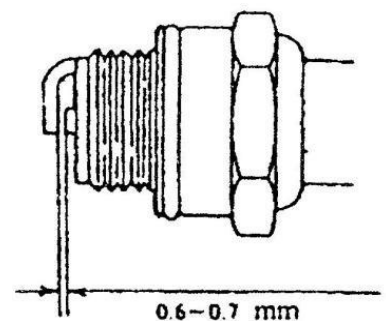

Fig. 16
- (1) After daily use, wash the air filter, as chemicals adhering to the sponge can reduce engine power. Pay special attention to this!
- (2) After washing the sponge with petrol, it should be reattached.
- (3) The correct gap between the spark plug electrodes should be 0.6-0.7mm, check it often; if it is too large or too small, adjust as shown in fig.16.
- (4) The compatible spark plug for this device is marked 4106J. Do not use other models. If it needs to be replaced, it can be purchased at a garden equipment service or a store selling agricultural or gardening tools.